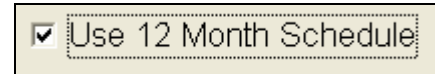

Figure 16.4.6B
3. Click on the **Use 12 Month Schedule** if you want to set up an irrigation program for each month of the year (Figure 16.4.6B).